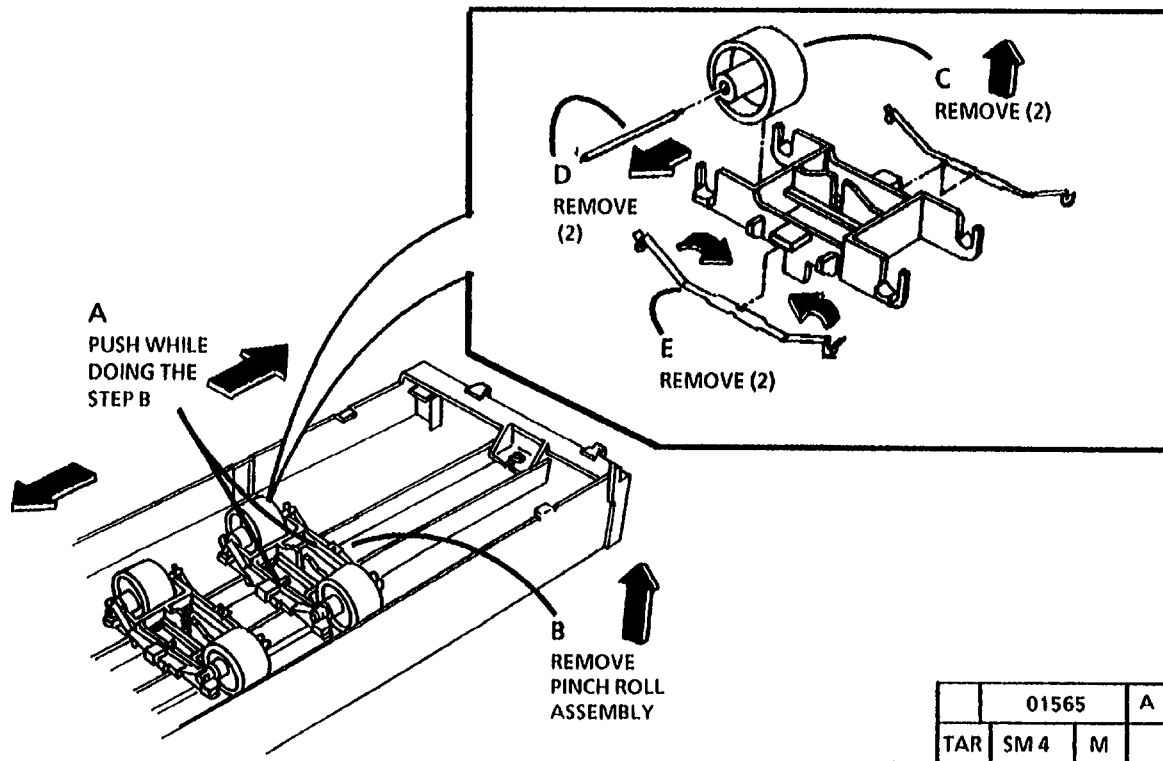

Figure 2. Remove the Pinch Rolls
4. (Figure 2): Remove the Document Pinch Rolls.